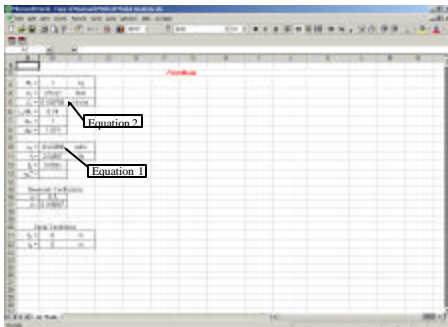

Figure 1: Spreadsheet After Completing Step 1
(A) Begin by setting up the cells for the Mass, Stiffness, and Damping of the SDOF System (Fig. 1). These values are known.
(B) Set up the cells for the modal participation factor  $\frac{L_i}{M_i}$  and mode shape  $f_i$  (Fig. 1). These values must be determined in advance using Modal Analysis.
(D) Set up the cells for the 2 Newmark Coefficients  $\alpha$  &  $\beta$  (Fig. 1), which will allow for performing
(E) Set up cells (Fig. 1) for the initial displacement and velocity ( $d_0$  and  $v_0$  respectively)